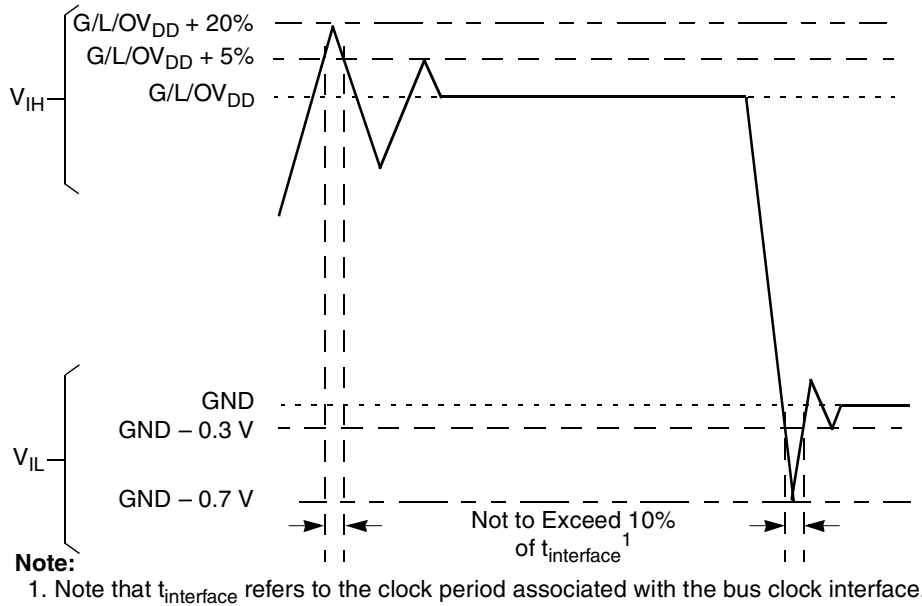

Figure 2. Overshoot/Undershoot Voltage for  $GV_{DD}/OV_{DD}/LV_{DD}$
- (M,L,O) $V_{IN}$  and  $MV_{REF}$  may overshoot/undershoot to a voltage and for a maximum duration as shown in Figure 2.
Figure 2 shows the overshoot and overshoot voltages at the interfaces of the device.